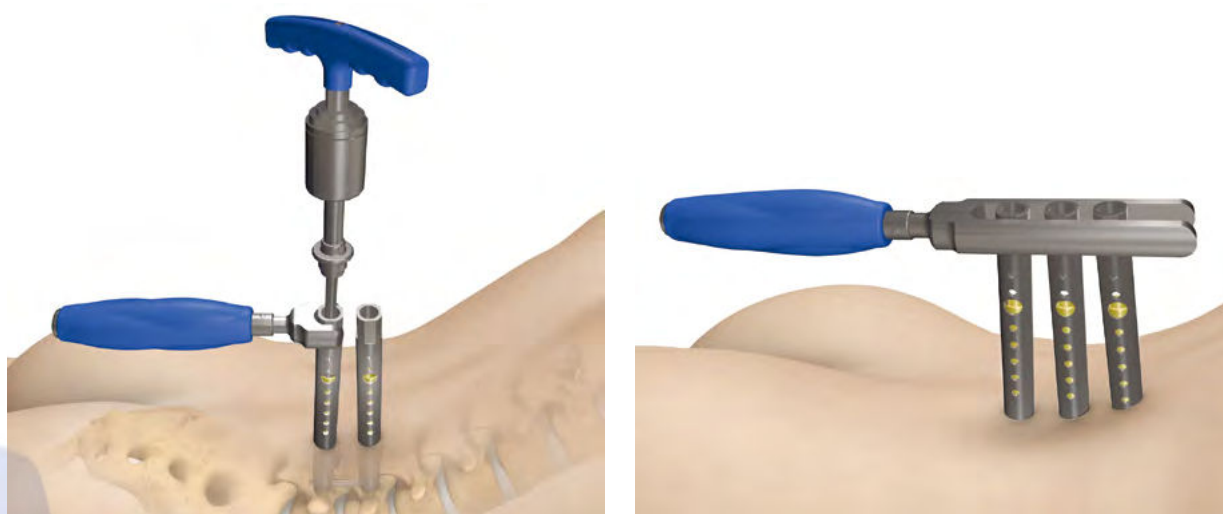

Figure 28 (Left: A type, Right: C-type)
- A. The top of the Support Towers interface with the **Anti-torque A type** (Figure 28, left). The Anti-torque A type can be used, if needed, to secure the Support Towers in fully seated position by applying downward force on the Support Towers during the application of compression or distraction. (Individual tightening: A type (1-level surgery), align tightening: C type (2-level surgery))
- B. The **Anti-torque C type** (Figure 28, right) can be used for final tightening of the Set Screws with the Multi-level Compressor/Distractor in place. The **Torque Wrench** must be used for final tightening of the construct.